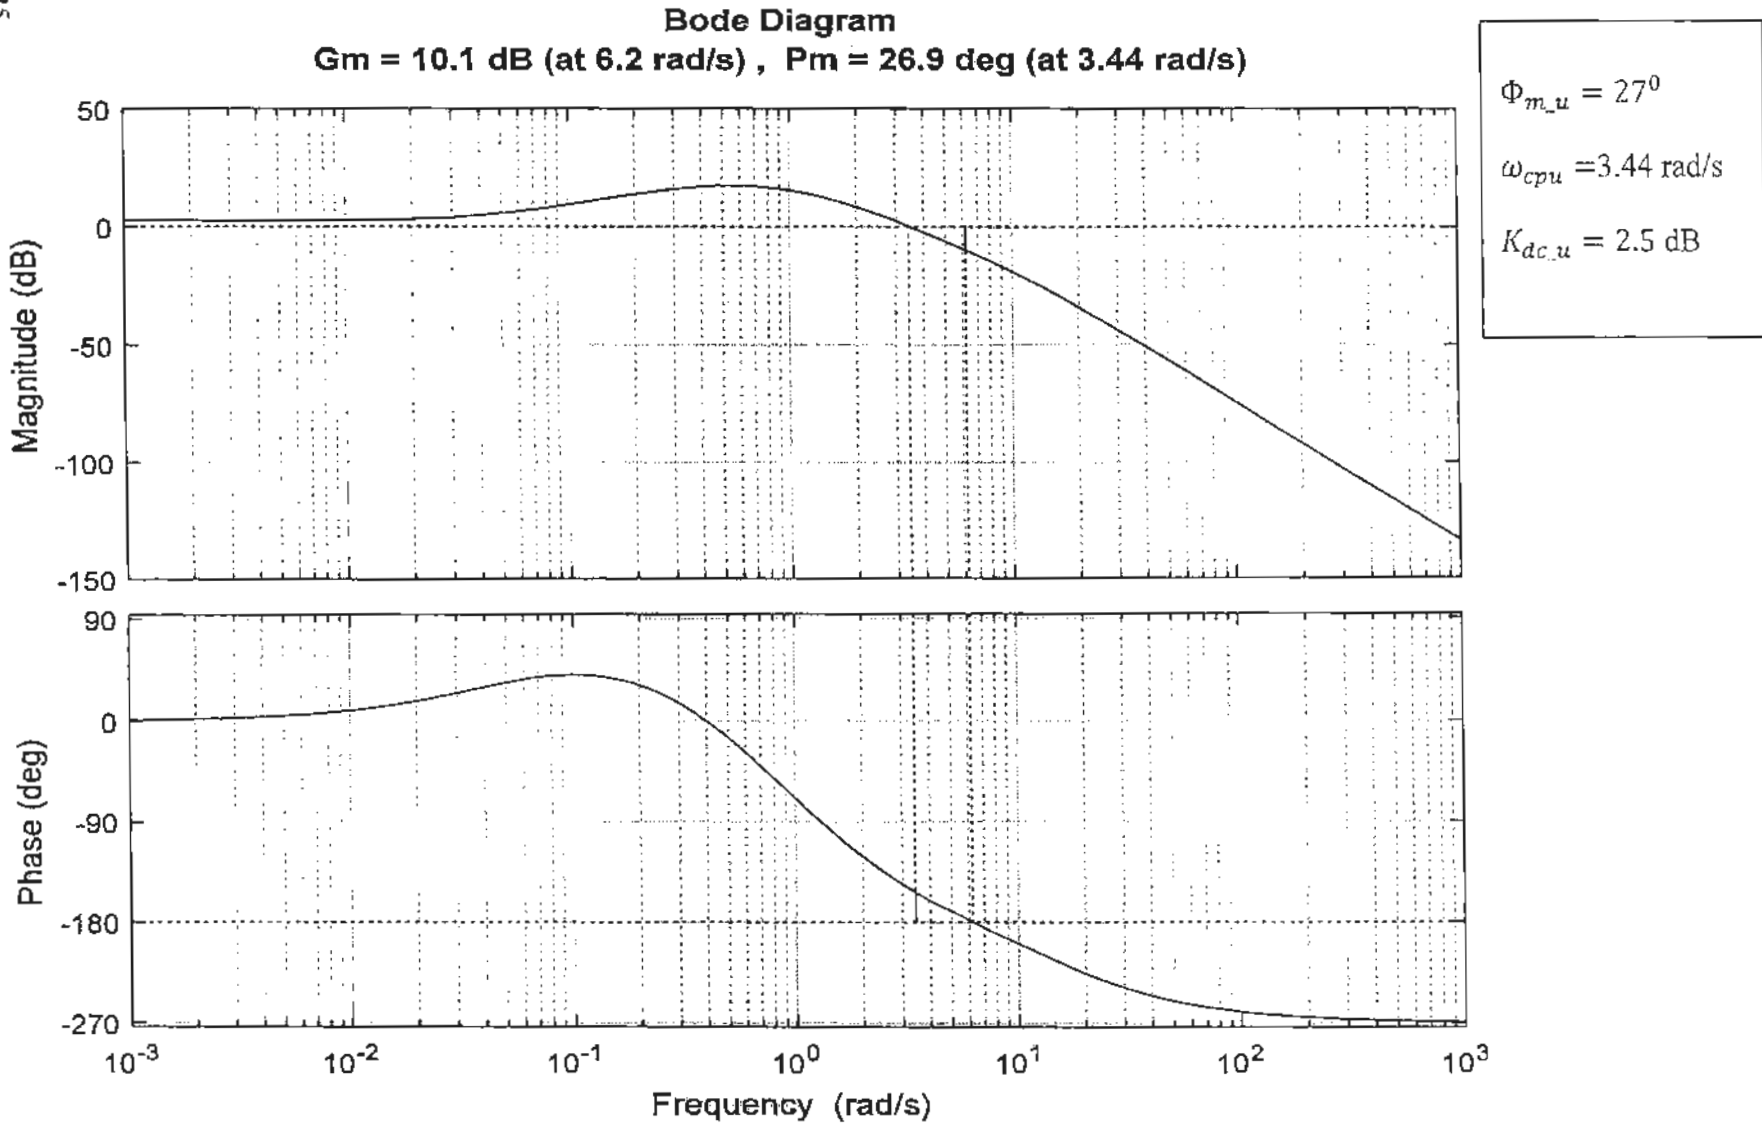

Figure Q7.1 – Open Loop Uncompensated System Frequency Response in Question 7
Consider uncompensated open loop frequency response plots shown in Figure Q7.1. The closed loop system is to be compensated by a Lead Controller $G_c(s)$:
1. **(6 marks)** Use the information provided in Figure Q7.1 to determine the Position Constant of the uncompensated system, (K_{pos_u}) and to estimate the uncompensated system step error, in %, $e_{ss(step)\%_u}$. Next, calculate the Position Constant of the compensated system (K_{pos_c}) that would meet the design requirement and calculate the required value of the Controller DC gain parameter, a_0 .
3. **(10 marks)** Calculate the remaining Lead Controller parameters (a_1, b_1) and the Controller transfer function $G_c(s)$. Show the general shape of the compensated frequency response by overlaying it on top of the uncompensated plot in Figure Q7.1.